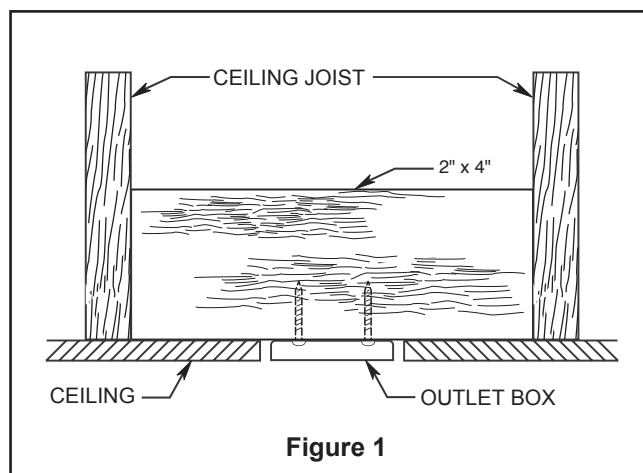
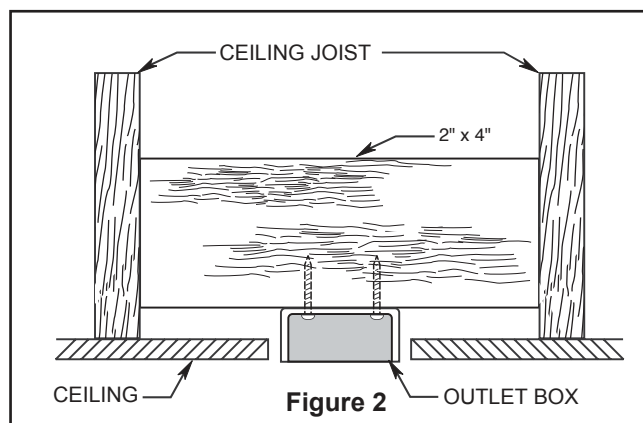
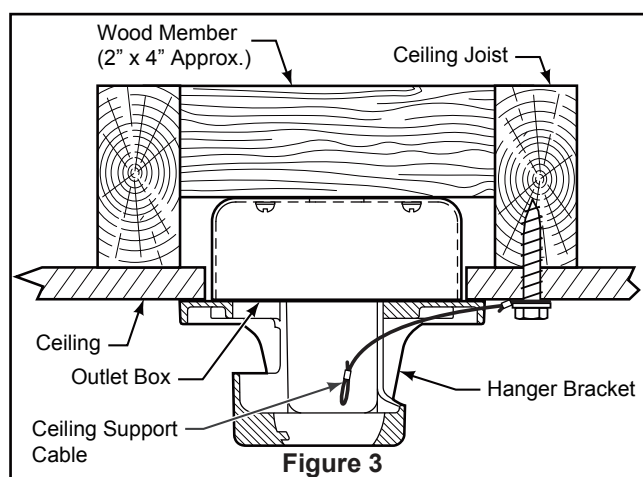

Figure 1
Figure 2
Figure 3
Your new ceiling fan will require a grounded electrical supply line of 120 volts AC, 60 HZ, 15 Amp Circuit. Electrical code requires use of a fan-rated outlet box to support the extra weight and motion associated with a ceiling fan. A fan-rated box will be labeled as such and typically supports up to a 70 lbs ceiling fan. Fan-Rated Outlet Boxes vary in ratings and design. Ensure the ratings of your ceiling fan outlet box meet the requirements for the ceiling fan being installed. Figure 1, Figure 2 and Figure 3 depicts different structural configurations that may be used for mounting the outlet box.
Low profile box (Figure 1)
Deep box (Figure 2)
Deep box with brace (Figure 3)
3. Loosen the two set screws and locking nuts in the downrod support of the motor assembly. Route the black, white and blue wires and safety cable through the downrod. (Figure 3)
1. Securely attach the hanger bracket to the outlet box using the outlet box screws and washers supplied with the outlet box. (Figure 3)
2. Drill a 1/4" pilot hole into the building structure to prevent splitting or cracking with installation of the lag bolt. Using the 3/8" x 2" lag bolt and flat washer, attach safety cable to ceiling joist or wood structural member. The lag bolt will pass through the flat washer, safety cable loop, and into the building structure. (Figure 3) **NOTE:** Ceiling support cable cannot be secured to outlet box only, it must be directly secured to ceiling joist or structural member using the 3/8" x 2" lag bolt and flat washer. (Figure 3)
2. Slide the receiver into the hanger bracket before wiring as shown in figure 3.
- 3. Remove the three screws in the light plate assembly and retain the screws for later. (Figure 3)
- 3. To make fan operational, install 23A/12V battery (included) in hand-held remote transmitter, with fan power off. Then follow the remote code setting process. (If not used for long periods of time, remove battery to prevent damage to transmitter). Store the remote away from excessive heat or humidity. (Figure 3)